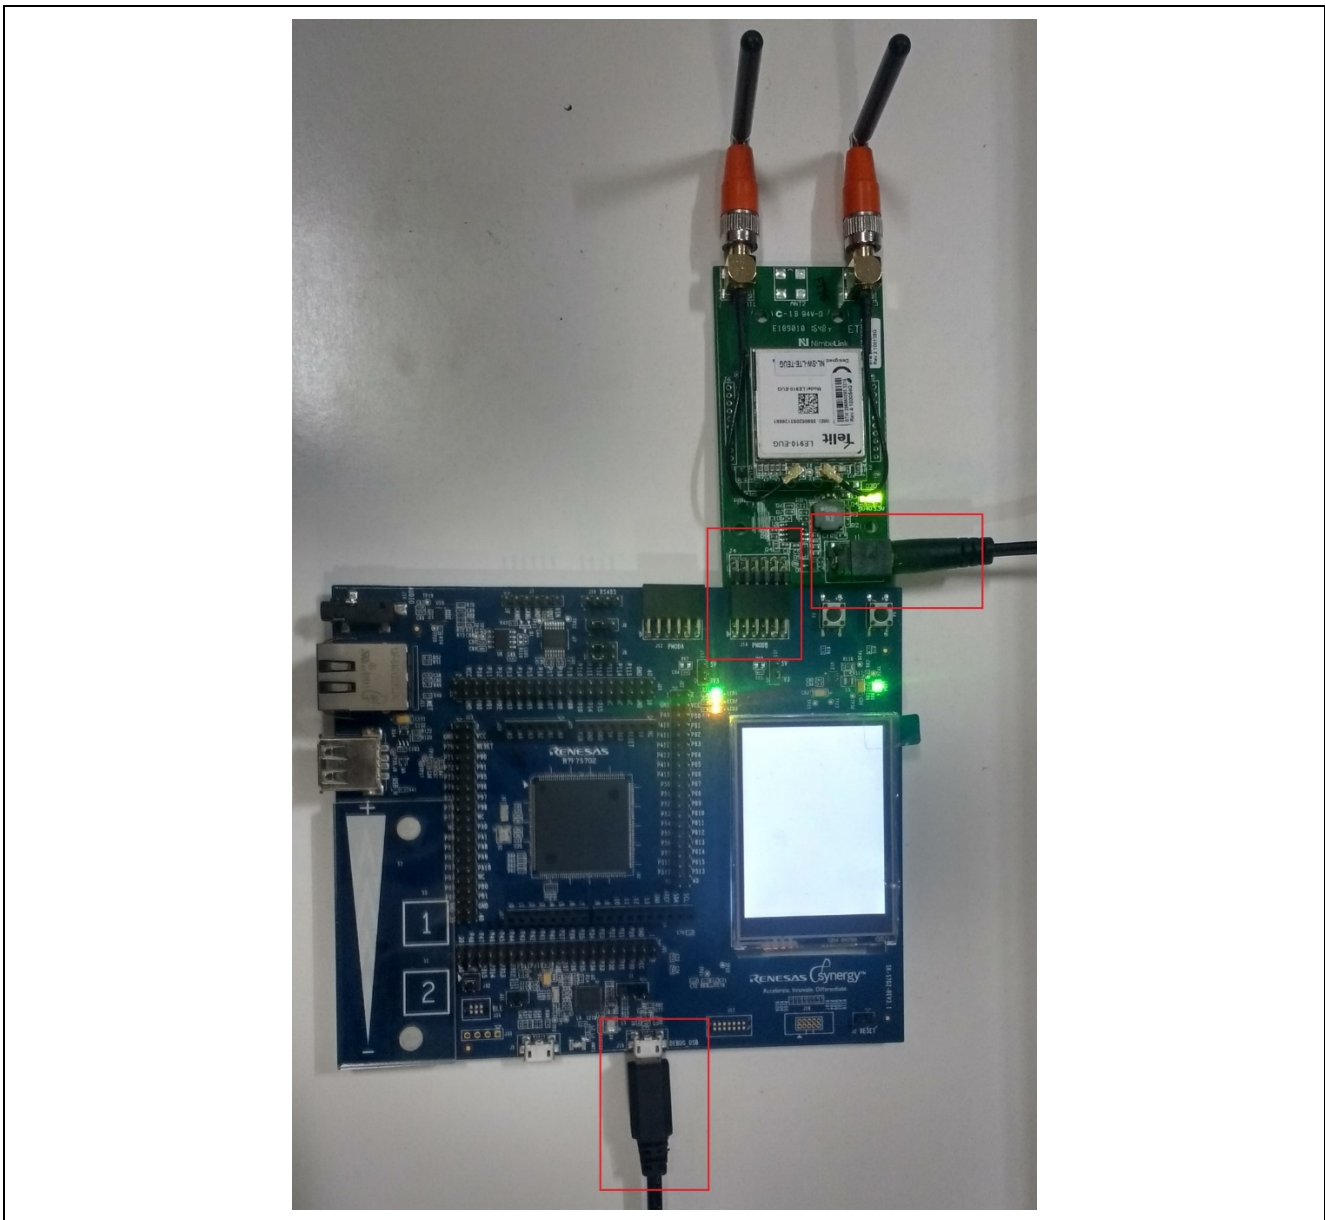

Figure 17 Board Connections
5. Make the connections between pmod cellular module and SK-S7G2 board as shown in the Figure 17.